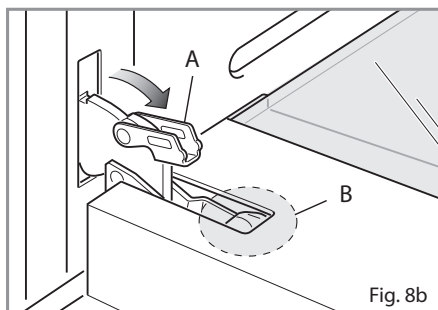
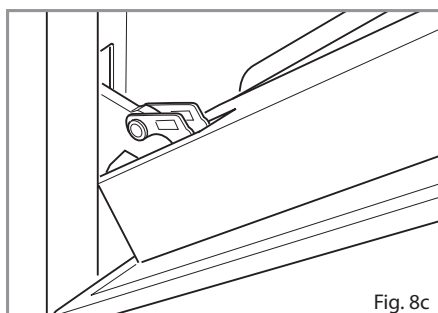

Fig. 8b
Fig. 8c
- Open the lever **A** completely on the left and right hinges (fig. 8b).
- Gently close the door (fig. 8c) until left and right hinge levers **A** are hooked to part **B** of the door (fig. 8b).